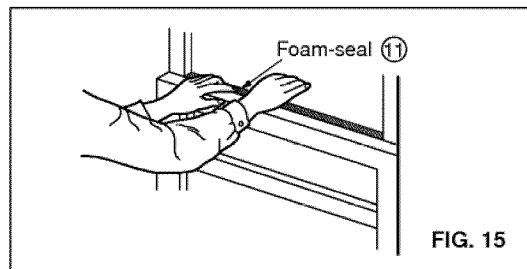

FIG. 15
**13** Cut the foam seal to the proper length and insert between the upper window sash and the lower window sash. (FIG. 15)